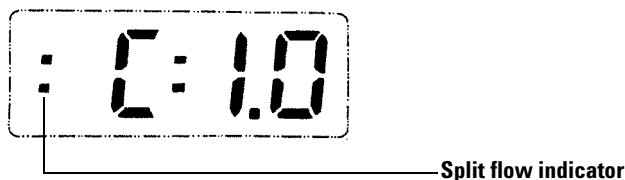

Figure 9 SFM display
- 1 Press **ON/RESET** twice quickly. Upon entering SFM, you will see a display as in Figure 9. The **C:1.0** means that the instrument is currently programmed for a capillary column flow rate of 1.0 mL/min.